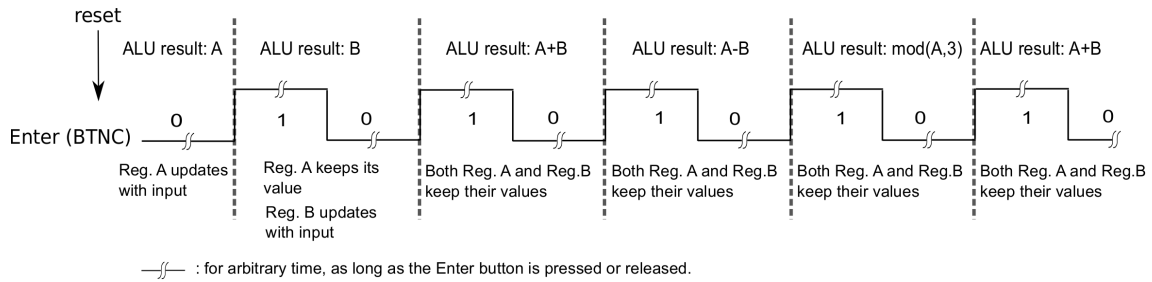

Figure 2: Functionality of ALU based on the input commands
According to the required functionalities, a controller, i.e. a finite state machine is necessary. It manages the behaviour of the ALU with respect to user commands input from push buttons. As an example, the ALU behaviour, according to the “Enter” signal sequence is shown in Figure 2. In the figure, “1” states that the button is pressed and “0” indicates when it is released.
**Task 7** Design an entity to provide suitable inputs for the register update in this lab based on the expected functionality described in Figure 2.